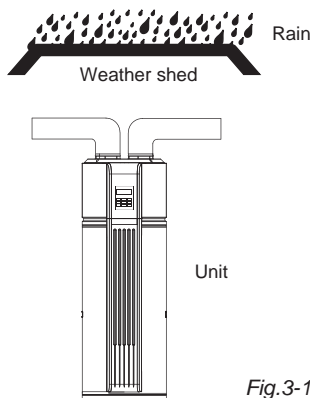

Fig.3-10
- In terms of the unit connect with duct reaching to outdoor, a reliable water-resistant measure must be conduct on the duct, to prevent water from dropping into internal of the unit.(Fig.3-10)